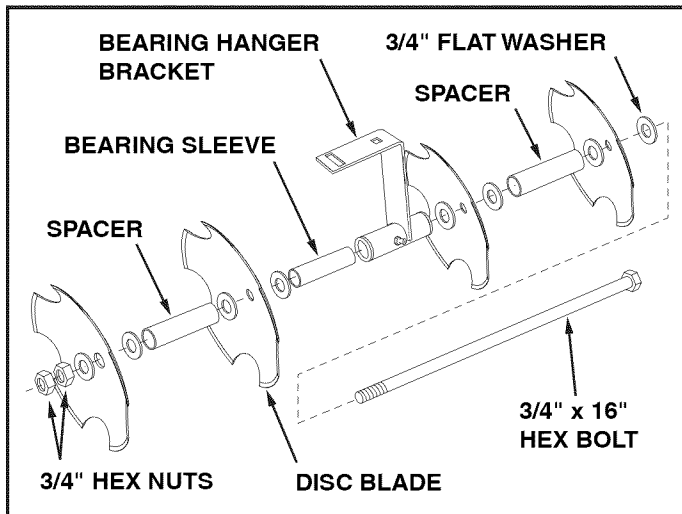

FIGURE 1
STEP 1: (SEE FIGURE 1)
- Assemble four discs to each bearing hanger bracket using a bearing sleeve (unplated), a 3/4" x 16" hex bolt, eight 3/4" flat washers, two spacers and two 3/4" hex nuts. Be sure the discs face the same direction relative to the hanger bracket as shown in the figure 1. **Tighten** the first hex nut and then **tighten** the second hex nut against the first.